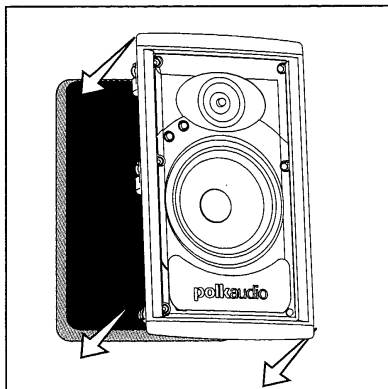

**FIGURE 12**
- Once you have cut the hole, fish your previously positioned wiring out of the hole and connect the speaker. Follow the hookup directions included with your receiver. Strip ½ inch (12 mm) of insulation from each of the two conductors of the wire to expose the bare metal and twist each of the conductors into a single unfrayed strand (so you have two unfrayed strands). Note that one of the terminals on the rear of each speaker is red (+) and the other is black (-). Make certain that you connect the wire from the red terminal (+) of your amplifier or receiver to the red terminal (+) on your speaker and the wire from the black terminal (-) of your amplifier or receiver to the black terminal (-) on your speaker. Most wire has some indicator (such as color-coding, ribbing or writing) on one of the two conductors to help you maintain consistency [figure 12].